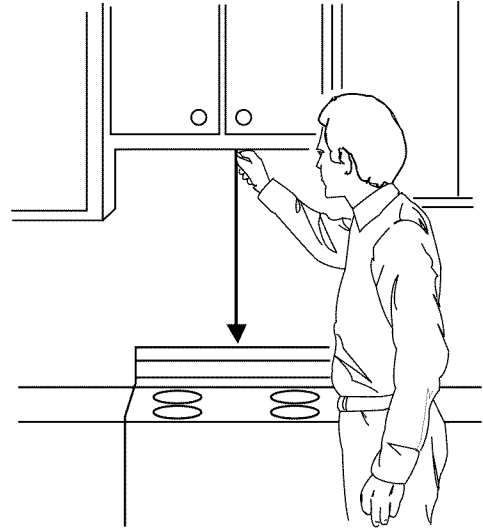

Figure 22
1. Using a plumb line and (metal) measuring tape, find and mark the vertical center line on the back wall, as in Figure 22.
See Figure 22.